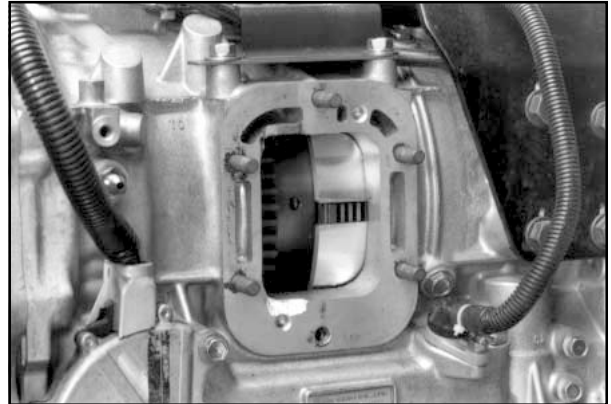

Figure 7
8. Install the 5 studs as shown in **Figure 7**. The bottom bolthole in the six-bolt pattern should be left open for the capscrew.